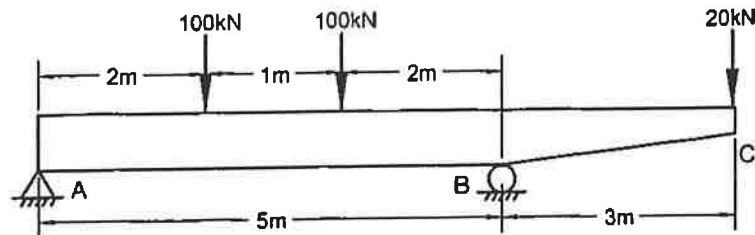

FIGURE B2
- B2. A reinforced concrete beam is shown loaded in Figure B2:
- C1. The beam in Figure B2 is to be designed in timber for storage of heavy farm equipment. For the given loading conditions in Figure B2, design a Douglas-fir Glulam rectangular section for the beam ABC, under the following conditions: (a) Dry service conditions; (b) permanent load duration.